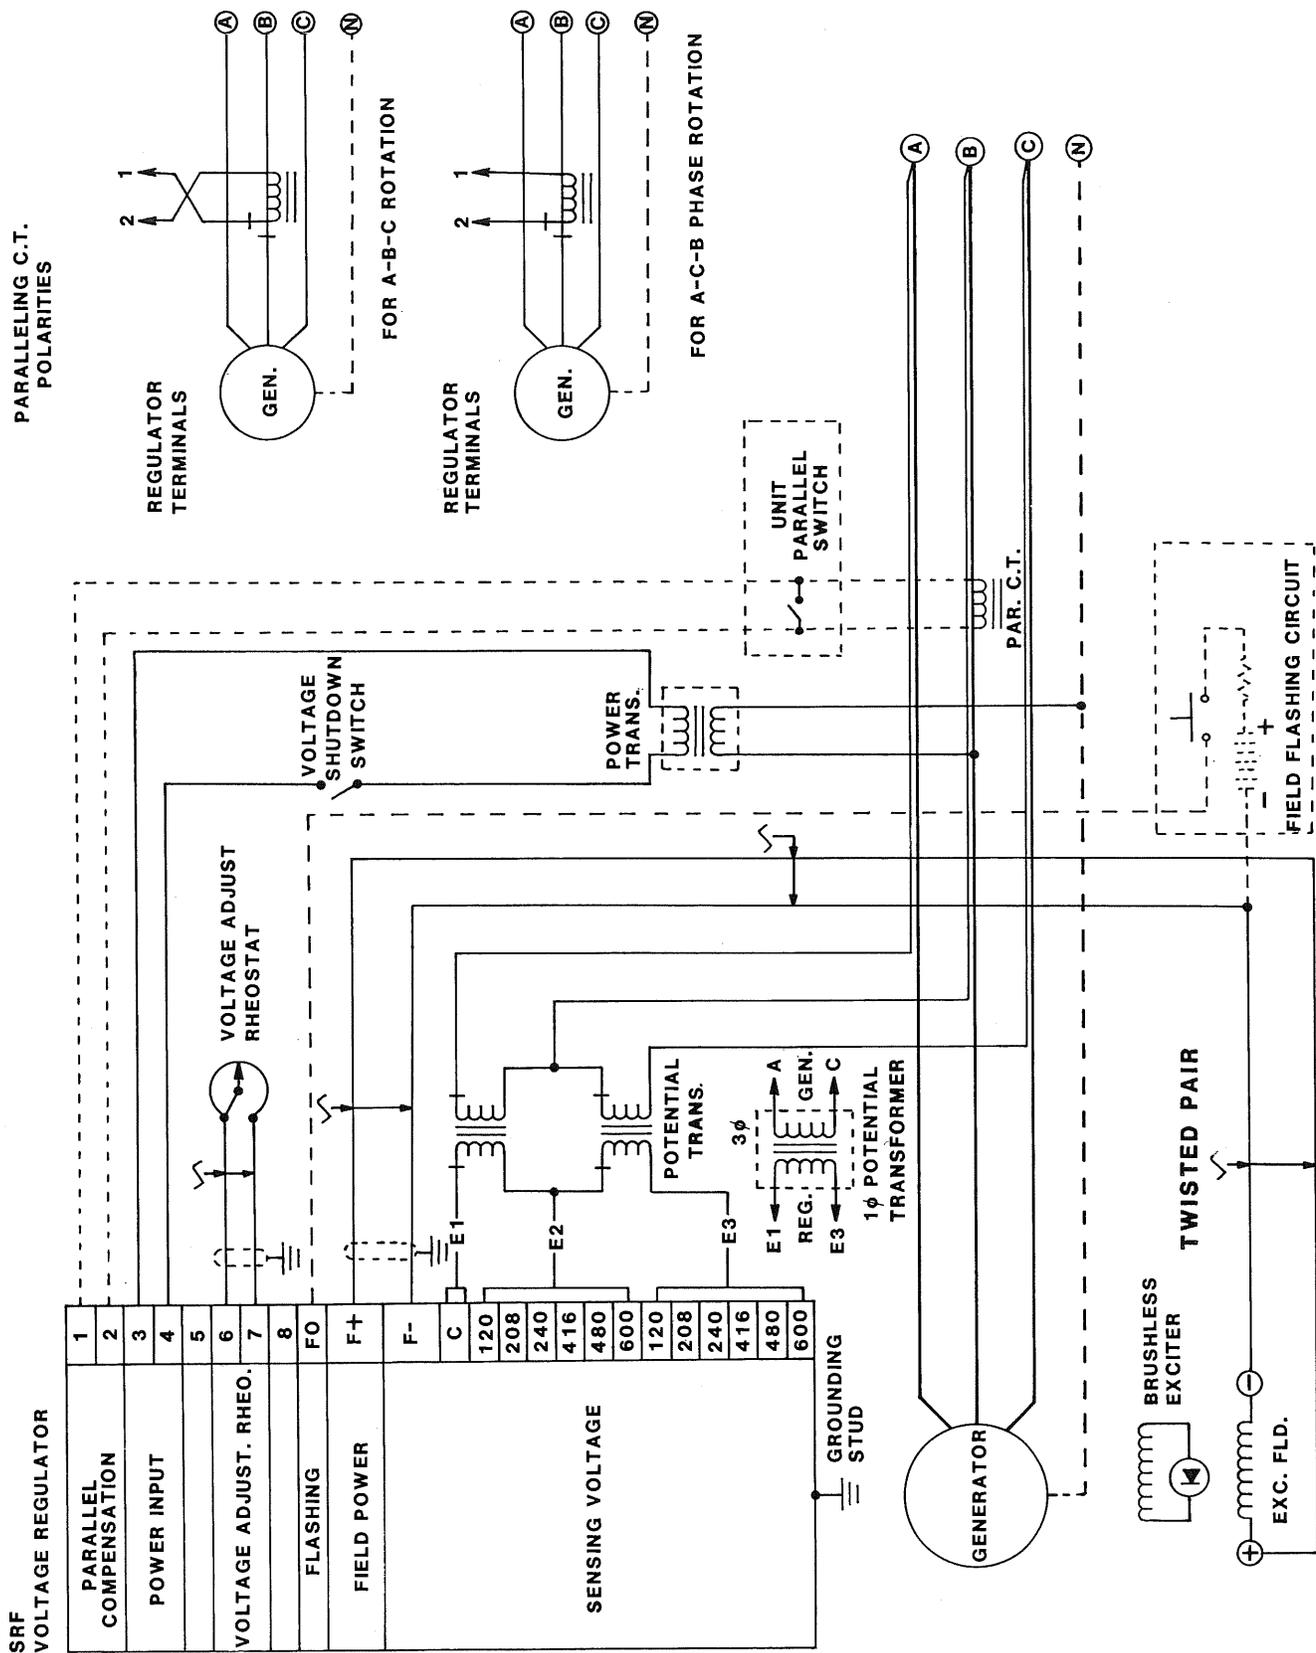

Figure 3-3. Brushless Exciter and Static Exciter Interconnection Diagram
c. The field flashing source must be removed after nominal generator voltage is obtained. This can be accomplished with a pushbutton or switch on manual field flash applications, and with a relay an automatic field flash applications. If a relay is used, it should sense the generator voltage and open the flashing circuit at approximately 70% of rated voltage. On automatic field flashing applications, provisions (such as speed switch) must be made to open the field flashing circuit when the generator is secured (not rotating). For proper connection instructions, refer to interconnection diagram, Figure 3-3. Also review paragraph 3.3.7 if the flashing source is grounded.